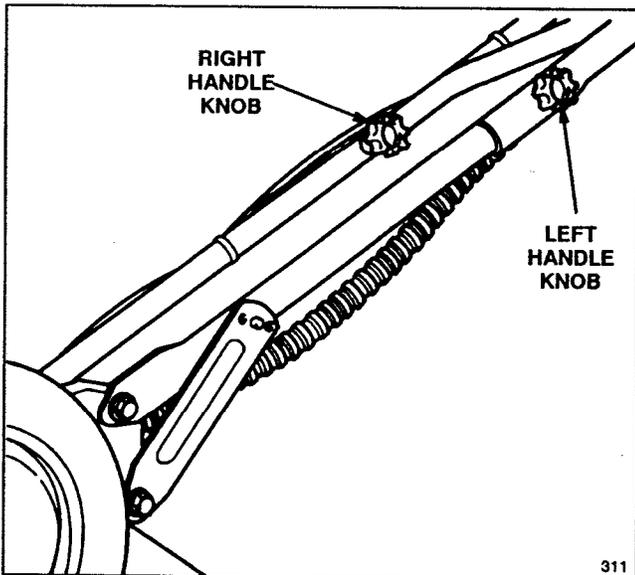
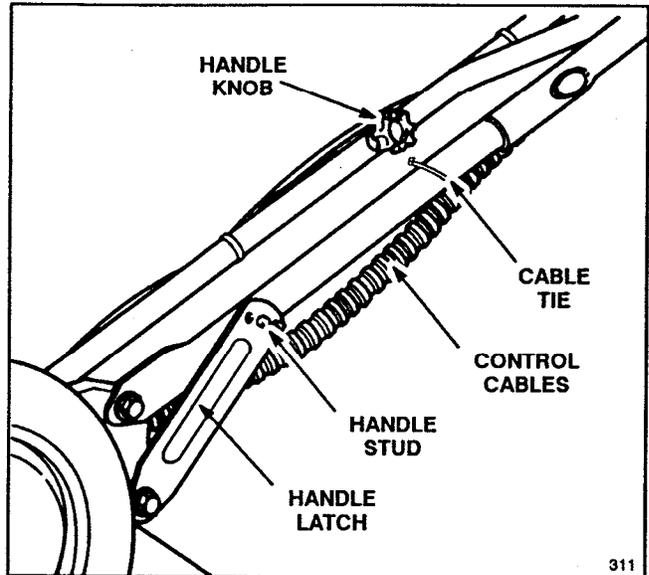

Figure 1
Figure 2
2. The left handle knob is shipped from the factory on the outside of the handle (Fig. 1). Remove the left knob and bolt. Reinstall knob and bolt on inside of handle (Fig. 2). Both handle knobs should be positioned on the inside of the handles.
3. Align handle and tighten handle knobs. Move handle latches slightly outward so they will not be in the way when pivoting the handle backward into the operating position (Fig. 2).
4. Pivot handle backward. Move handle latches inward while snapping handle stud into center hole of handle latch (Fig. 2). If a handle latch does not fit tightly against the handle tube, remove latch from handle stud, bend the latch inward, and reattach to handle stud. Repeat as necessary to ensure a tight fit between latch and handle.
5. Ensure control cables (Fig. 2) are to the rear and inside of handles. If handle height is not satisfactory, adjust by placing handle stud (Fig. 2) into a different hole. Tighten handle knobs.